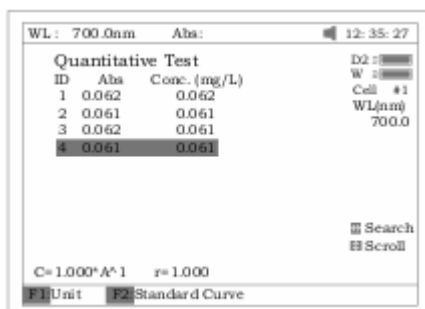

Fig.38
4.2 Pull the sample cuvette into the Main Light Path and press the key **START** ,the results will be displayed on the screen (Fig 38).